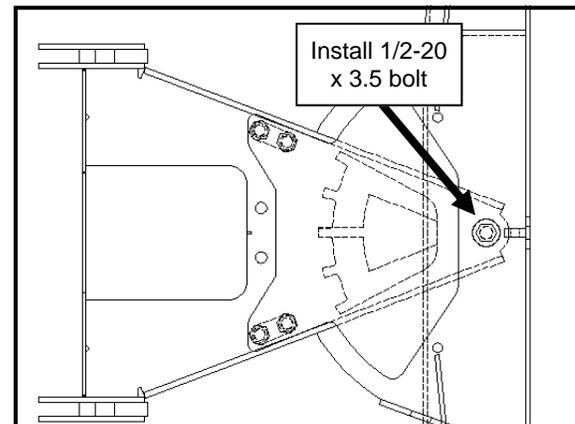

Fig. 3.2—A-Frame and Trip Frame
3.2 Per fig. 3.2, slide the A-Frame into the trip frame pocket, aligning the 1/2" bolt holes on both assemblies. Install the 1/2-20 x 3.5" hex head bolt with a 1/2" washer under the head of the bolt. Then thread on the lock nut. Tighten until all slack is removed from the bolt while the A-frame is allowed to rotate freely in the trip frame pocket.